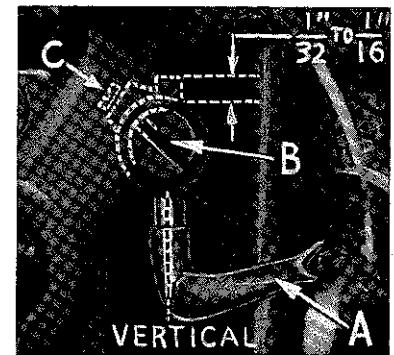

Fig. 7
Insert spreader (A, Fig. 7) in its holder. Screw (B) holds spreader in its holder, and permits it to be pushed in or out or turned around its shank. Insert spreader holder into spreader shaft, if it is not already in place. Screw (C, Fig. 7) on clamp collar holds spreader holder in the shaft, and allows holder to be rotated or adjusted laterally.
**Preliminary Setting:** When spreader is at the right end of its stroke, spreader holder should be set to position spreader shank about vertical (Fig. 7). Top end of spreader shank should extend  $\frac{1}{32}$  to  $\frac{1}{16}$  inch above the spreader holder (Fig. 7).
Insert spreader (A, Fig. 7) in its holder. Screw (B) holds spreader in its holder, and permits it to be pushed in or out or turned around